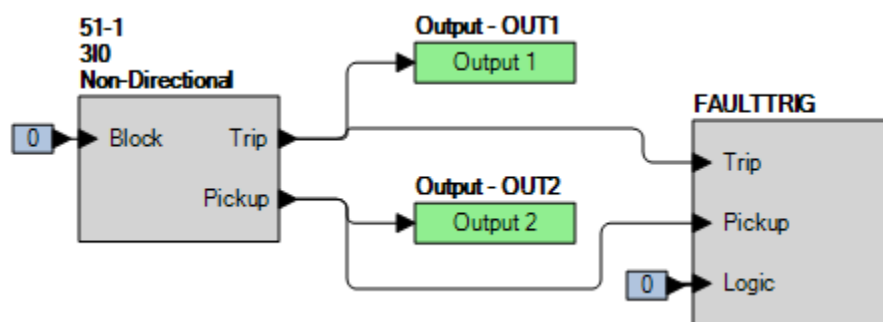

Figure 64-2. BESTlogic*Plus* Settings (3I0 Mode)
Step 2: Use BESTCOMS*Plus* to configure the BESTlogic*Plus* programmable logic shown in Figure 64-2.
Step 4: Prepare to monitor the 51-1 function operation. Operation can be verified by monitoring OUT2 (see Figure 64-2).